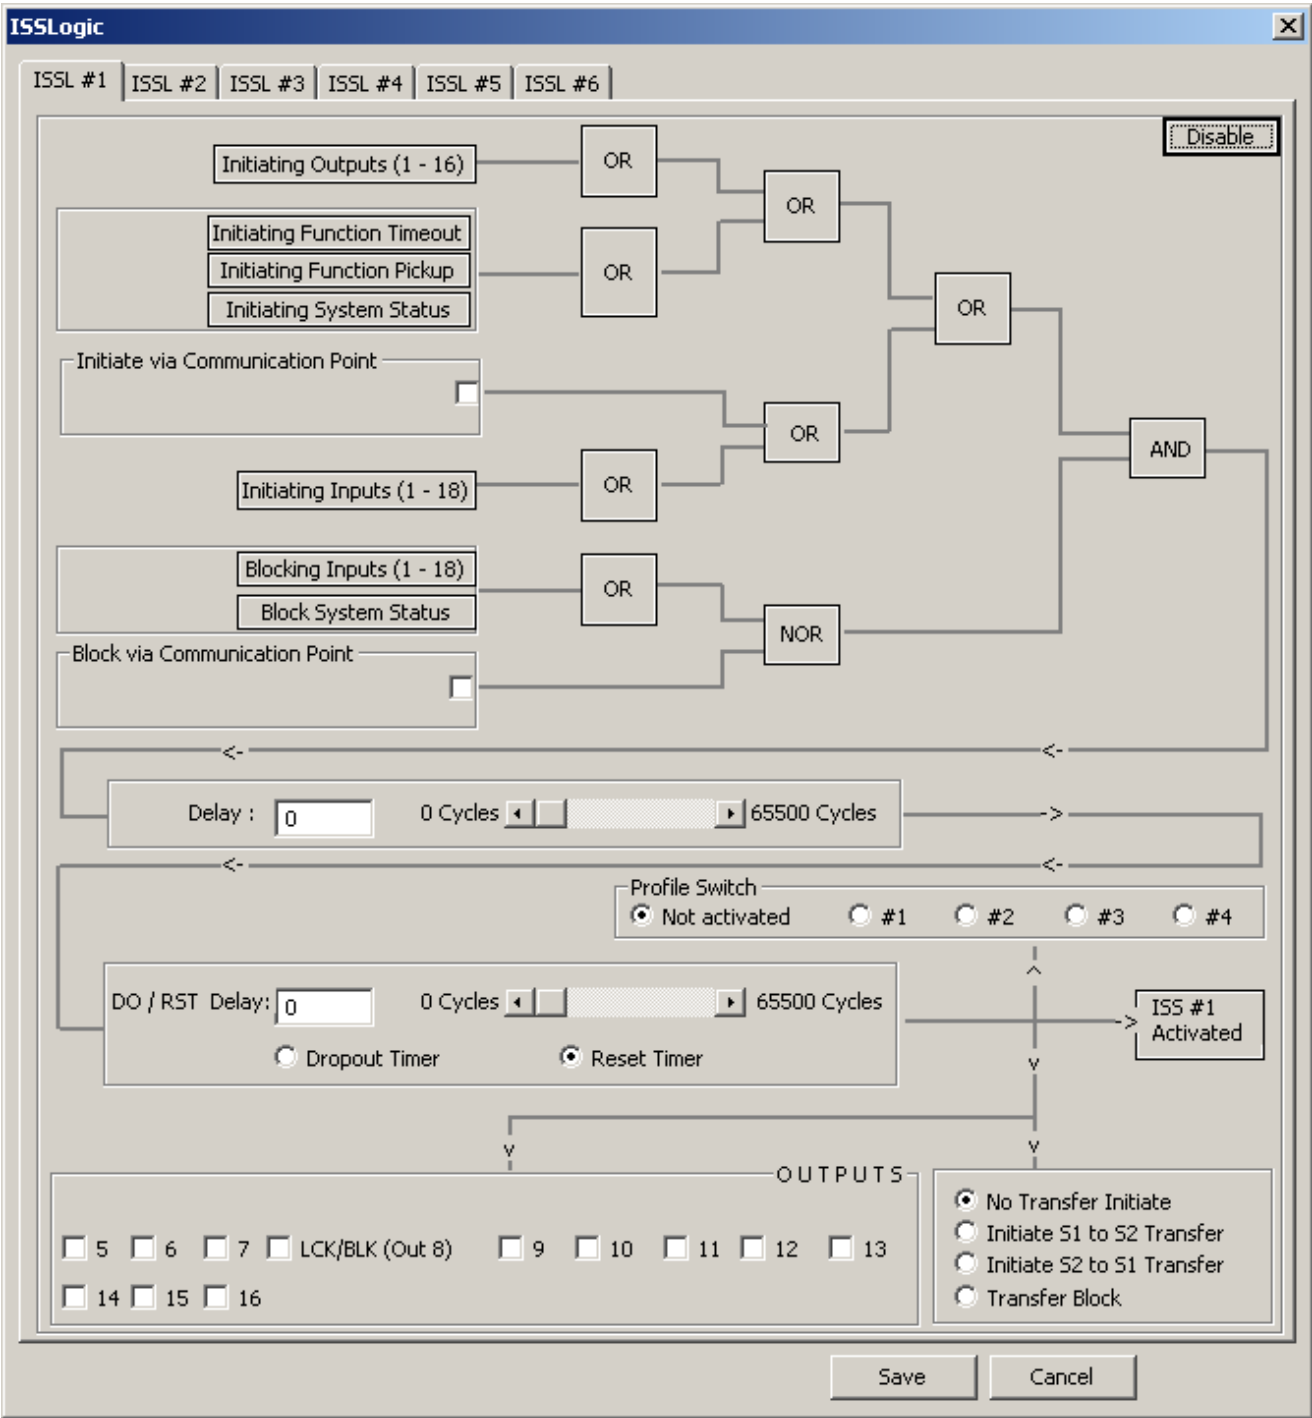

Figure 4-93 ISSLogic® Function Dialog Screen
Figure 4-93 displays the settings for the ISSL (ISSLogic) function. The settings for the ISSL #2 through 6 are the same as the ISSL #1.
1. From the ISScom® Main Screen menu select **System/Setup/Setpoints/ISSL**. ISSLogic will display the ISSLogic Function dialog screen (Figure 4-93).